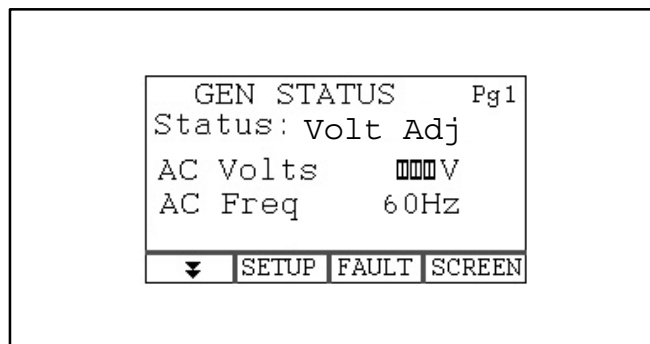

FIGURE 10-3. VOLTAGE ADJUSTMENT SCREEN
2. Rapidly press **START** 6 times *during the first minute after startup* to put the genset controller into *voltage adjust mode*. The green status lamp will blink rapidly and the Display will indicate a Status change from *Running* to *Volt Adj* (Figure 10-3).
Note: The GEN STATUS screen will not display AC Voltage while the genset is in voltage adjust mode. The line for displaying the voltage is filled in as shown in Figure 10-3. A separate voltmeter is required for voltage adjustment.